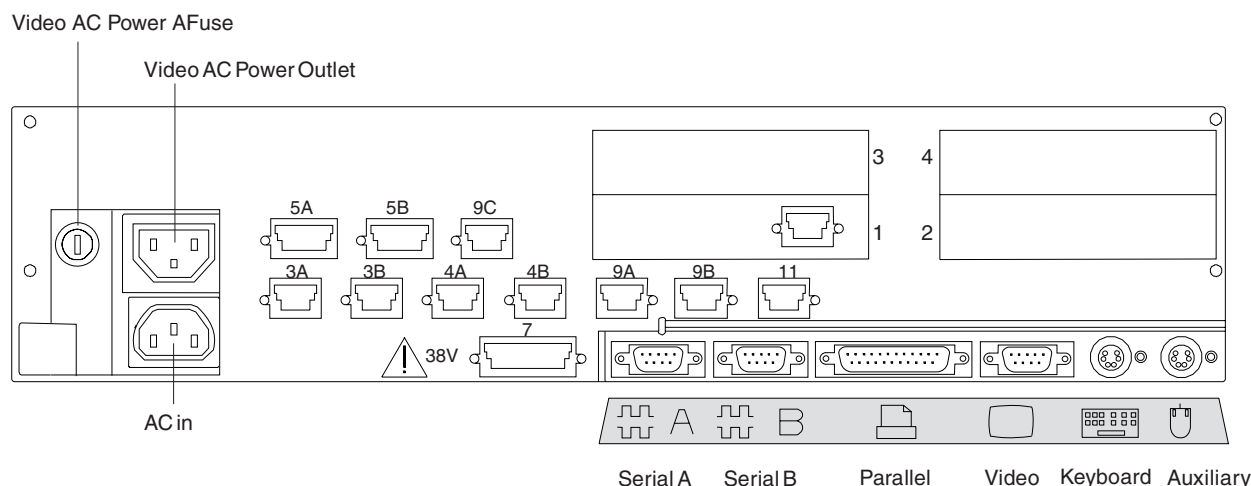

Figure 88. Rear of 4693-5x1 or 4693-7x1 controller/terminal
7. Mark an X on Figure 88 on page 250 to indicate the sockets in which POS devices are connected.